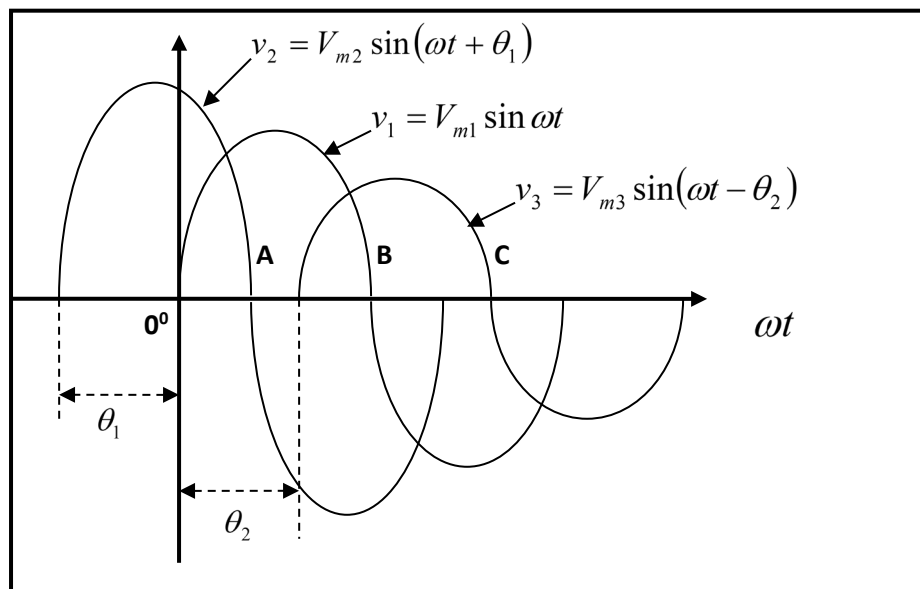

Figure 2(b) / Rajah 2(b)
- (b) Referring to **Figure 2(b)**, convert the difference phase waveform into the vector diagram and phasor diagram.